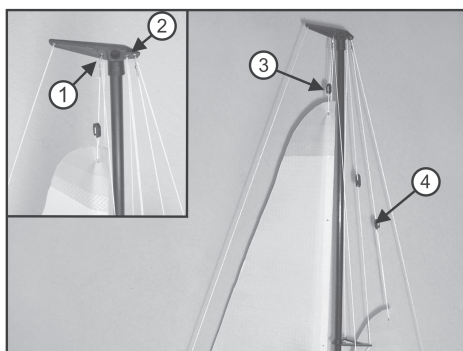

Figure 9
Attach the tensioning rope of the mainsail to the „mast top“ of the mast as shown in figure 9, item 1.
Attach the tensioning rope of the head sail to the „mast top“ of the mast as shown in figure 9, item 2.